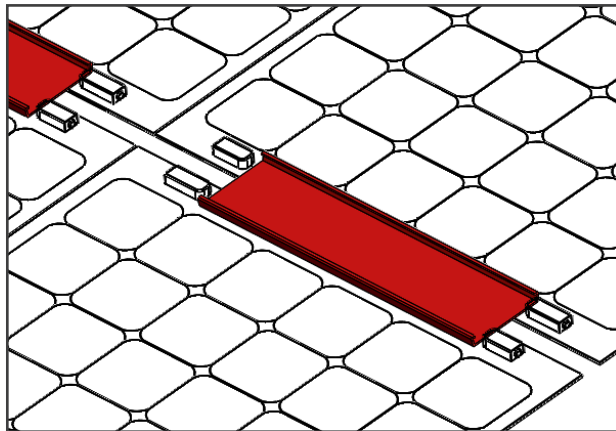

Figure 2 - Install wire baseplates between junction boxes.
There are two components to the raceway, the: (1) baseplate, (2) top cover. The baseplate is designed to fit between the j-boxes of the module as shown in Figure 2.